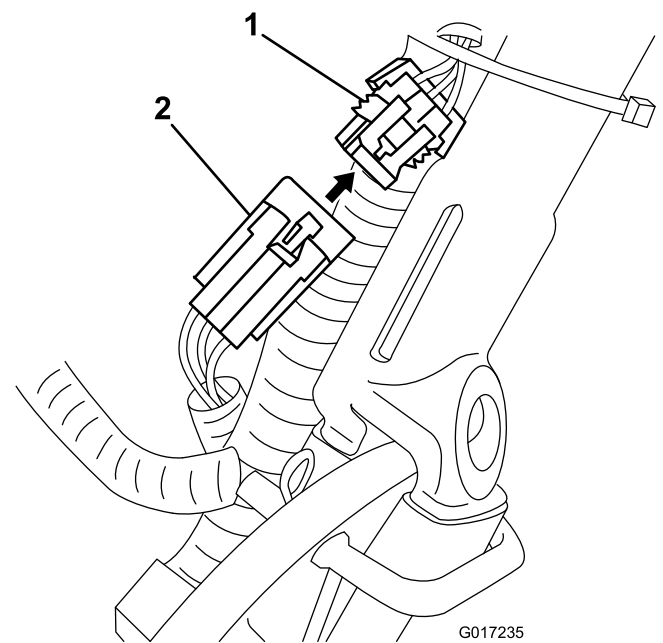

Figure 12
3. Disconnect the small connector on the pack to machine wiring harness from the main wiring harness (Figure 12).
14. Route the pack to machine wiring harness under and behind the main harness on the left side of the machine and connect the small, 6-pin connector on the harness to the matching connector on the main wiring harness as shown in Figure 12.